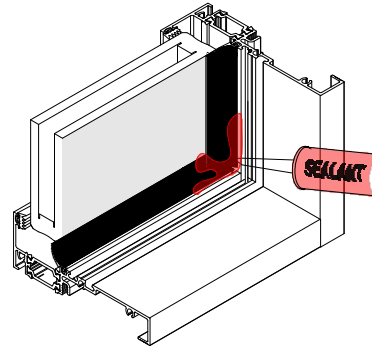

FIG. 2
- c. Using a tooling stick peel back overlapping gasket and apply sealant in-between gaskets, and around the corner to prevent air leakage. See **FIG. 2**